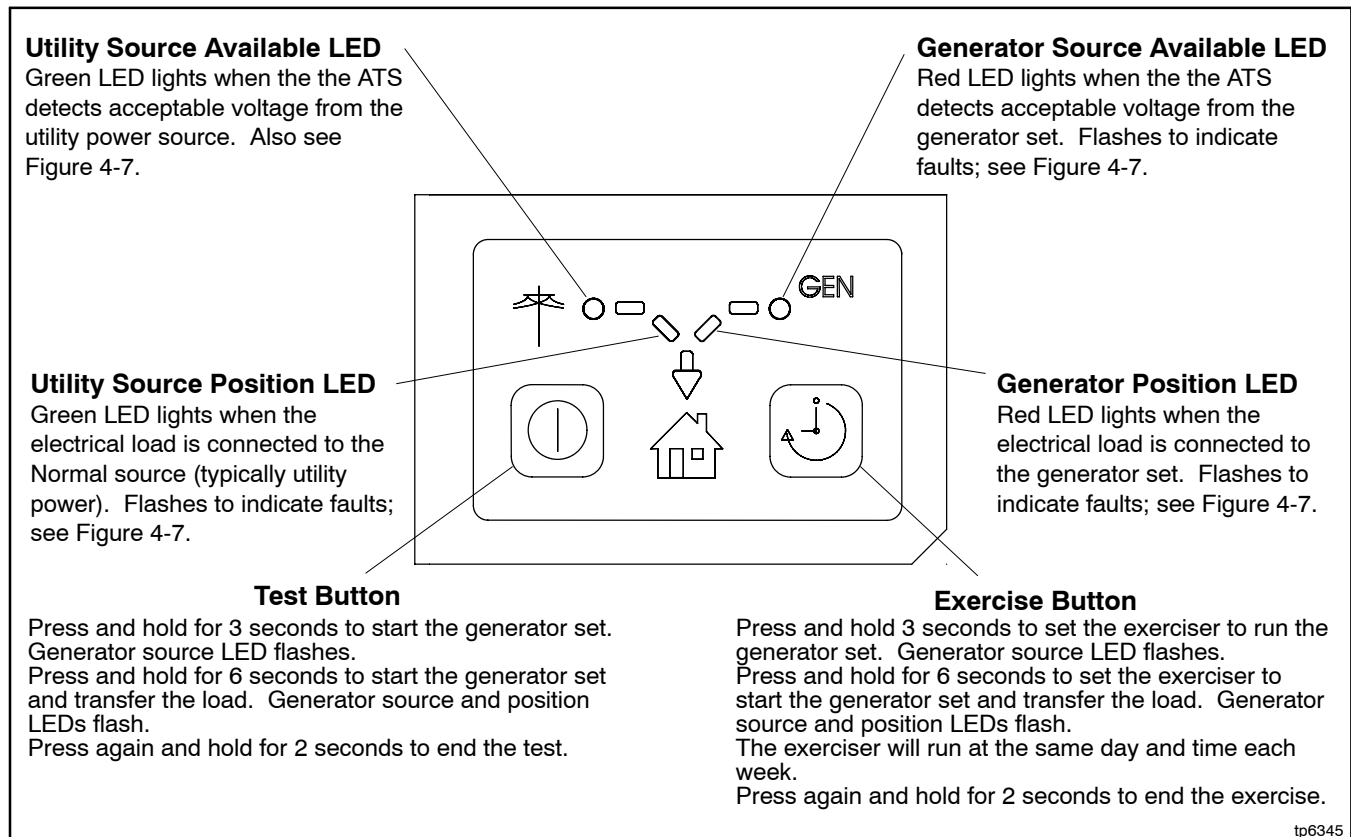

Figure 2-1 User Interface Panel
Red and green LEDs on the transfer switch controls indicate which sources are available, show which source is connected to the load, and flash to indicate fault conditions. Pushbuttons allow you to start and stop the generator set and set the exercise timer. See Figure 2-1.
The controller's user interface panel is accessible through an opening in the transfer switch cover (the inner panel on NEMA type 3R enclosures). Figure 2-1 explains the operation of the controller pushbuttons and LED indicators.
1. Check the controller LED indicators to verify that the Utility Source Available and Utility Source Position indicators are lit. See Figure 2-1.